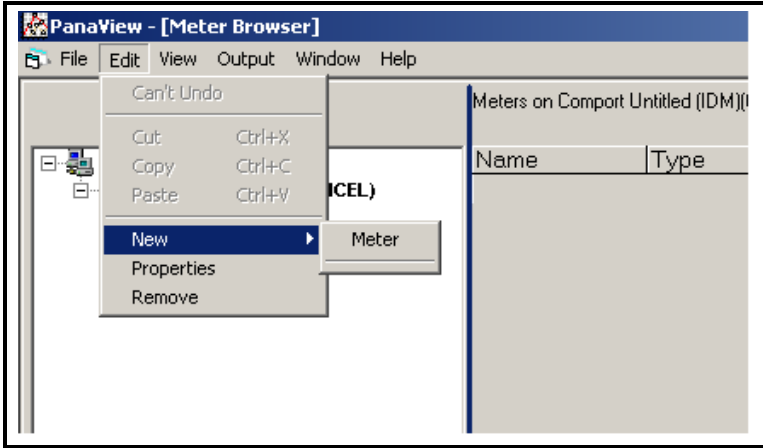

Figure 4-8: The Edit Menu
3. Click on the “New” option in the “Edit” menu (see Figure 4-8 below).